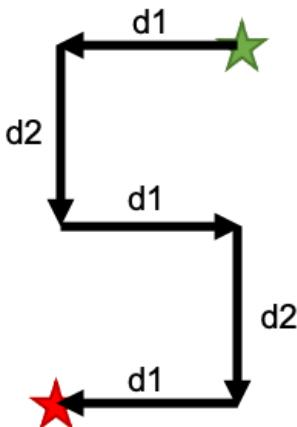

Figure 2
2. **Simulate** a navigation path as shown in Figure 2 for your robot by driving your wheels unloaded. ***Please note there is no feedback control in this lab so actual driving is not recommended.***